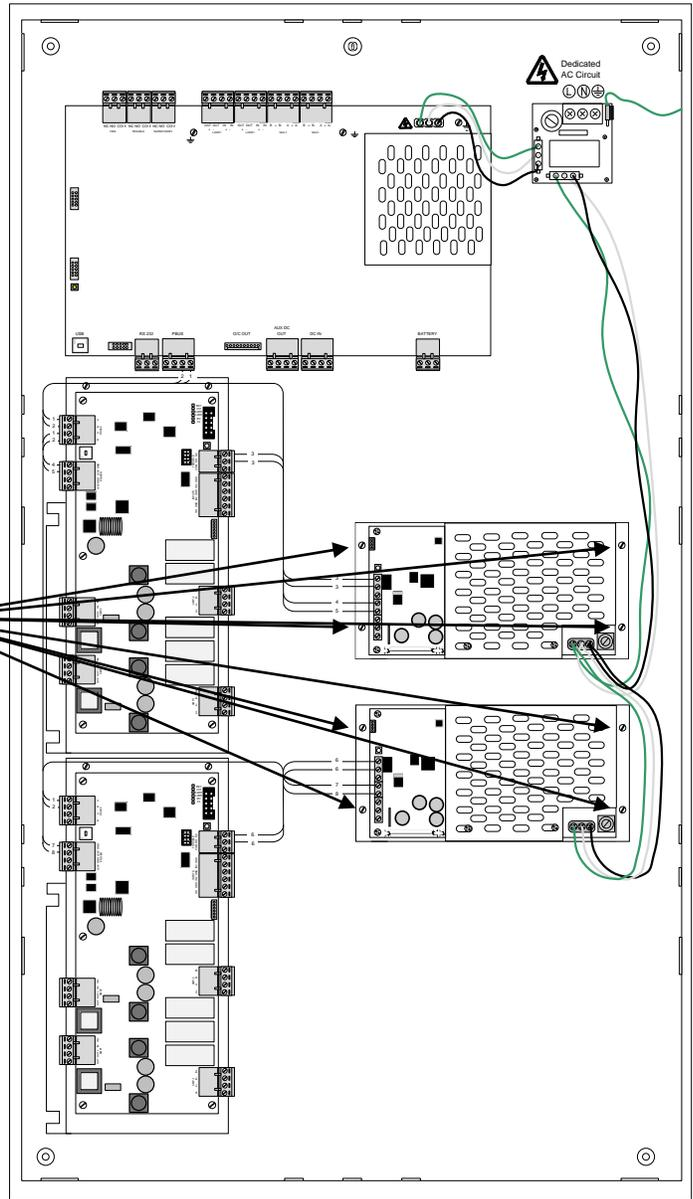

Figure 37 - NX-CC02-BB-BB Back Box w/two (2) NX-AMP-80s
**Note: Two (2) NX-EM-PSU6 power supply chargers with two (2) NX-AMP-80 amplifiers may be mounted in the NX-CC02-BB-BB back box (see figure 37).**
Remove power (AC and battery) from the system and remove all field wiring terminal blocks from the NX-EM-LPD or NX-EM-NAC module. Remove the four (4) screws securing the module to the NX-ACS-2L two-loop base card and remove the module. Position the new module onto the metal hexagon spacers while plugging the module into the two (2) 20-pin connectors on the NX-ACS-2L two-loop base card and secure with the four (4) removed screws (see figure 37). It is critical that these screws are tightly secured as the two top screws are required for the earth ground connection to the NX-EM-LPD or NX-EM-NAC module. Reconnect AC and battery power to the system.